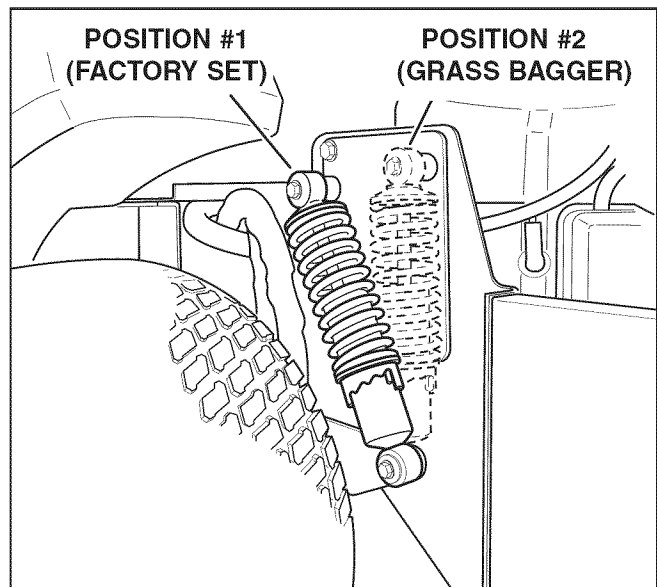

Figure 1. Rear Suspension Adjustments
The upper mounting position #2 (See Figure 1) should be used when a rear-mount grass bagger system is installed.
4. Remove the upper shock mounting hardware and pivot the shock to the position #2 (see Figure 1). Adjust the jack to align the shock mounts to the shocks.
4. See Figure 1. Using the supplied spanner wrench (p/n 5022853), insert the tip of the wrench into the notch in the pre-load adjuster. While holding the wrench in place with one hand, turn COUNTER-CLOCKWISE to increase the pre-load, turn CLOCKWISE to decrease the pre-load. Make sure both shocks are set to the same amount of pre-load.